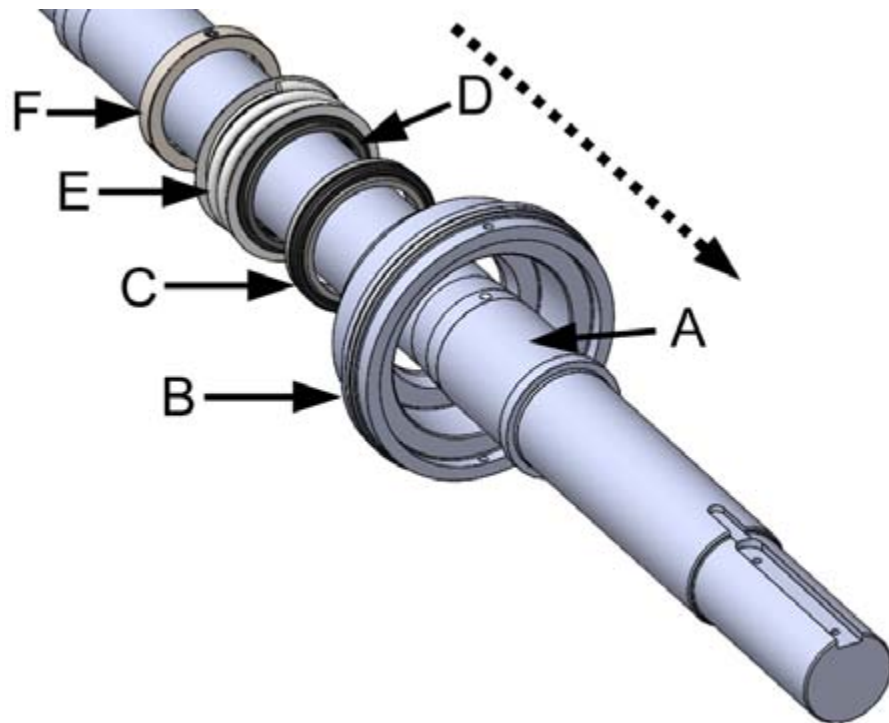

Figure 11. Installing the mechanical seal
Be careful not to damage the slip-ring (figure 11, point D) during installation. If the seal is pressed into its place in a slanted position, and the slip-ring can scratch the surface of the shaft, the slip-ring may be damaged.
- 1.1. Lubricate the surface of the shaft where the rubber bellows rest (figure 11, point A).
- 1.2. Fit the parts of the mechanical seal onto the shaft together with the sealing housing from the rear end of the shaft. Follow the order shown in the figure (figure 11).